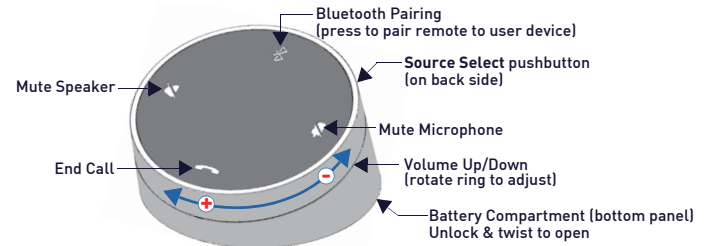

FIG. 10 ACENDO VIBE REMOTE CONTROL
The ACV-5100 includes a wireless remote control (FIG. 10):
- Press and hold both the **Source Select** and **Bluetooth Pairing** buttons on the remote control for 5 seconds (see FIG. 10). All LEDs on the remote control should start blinking or remain blinking (once per second).